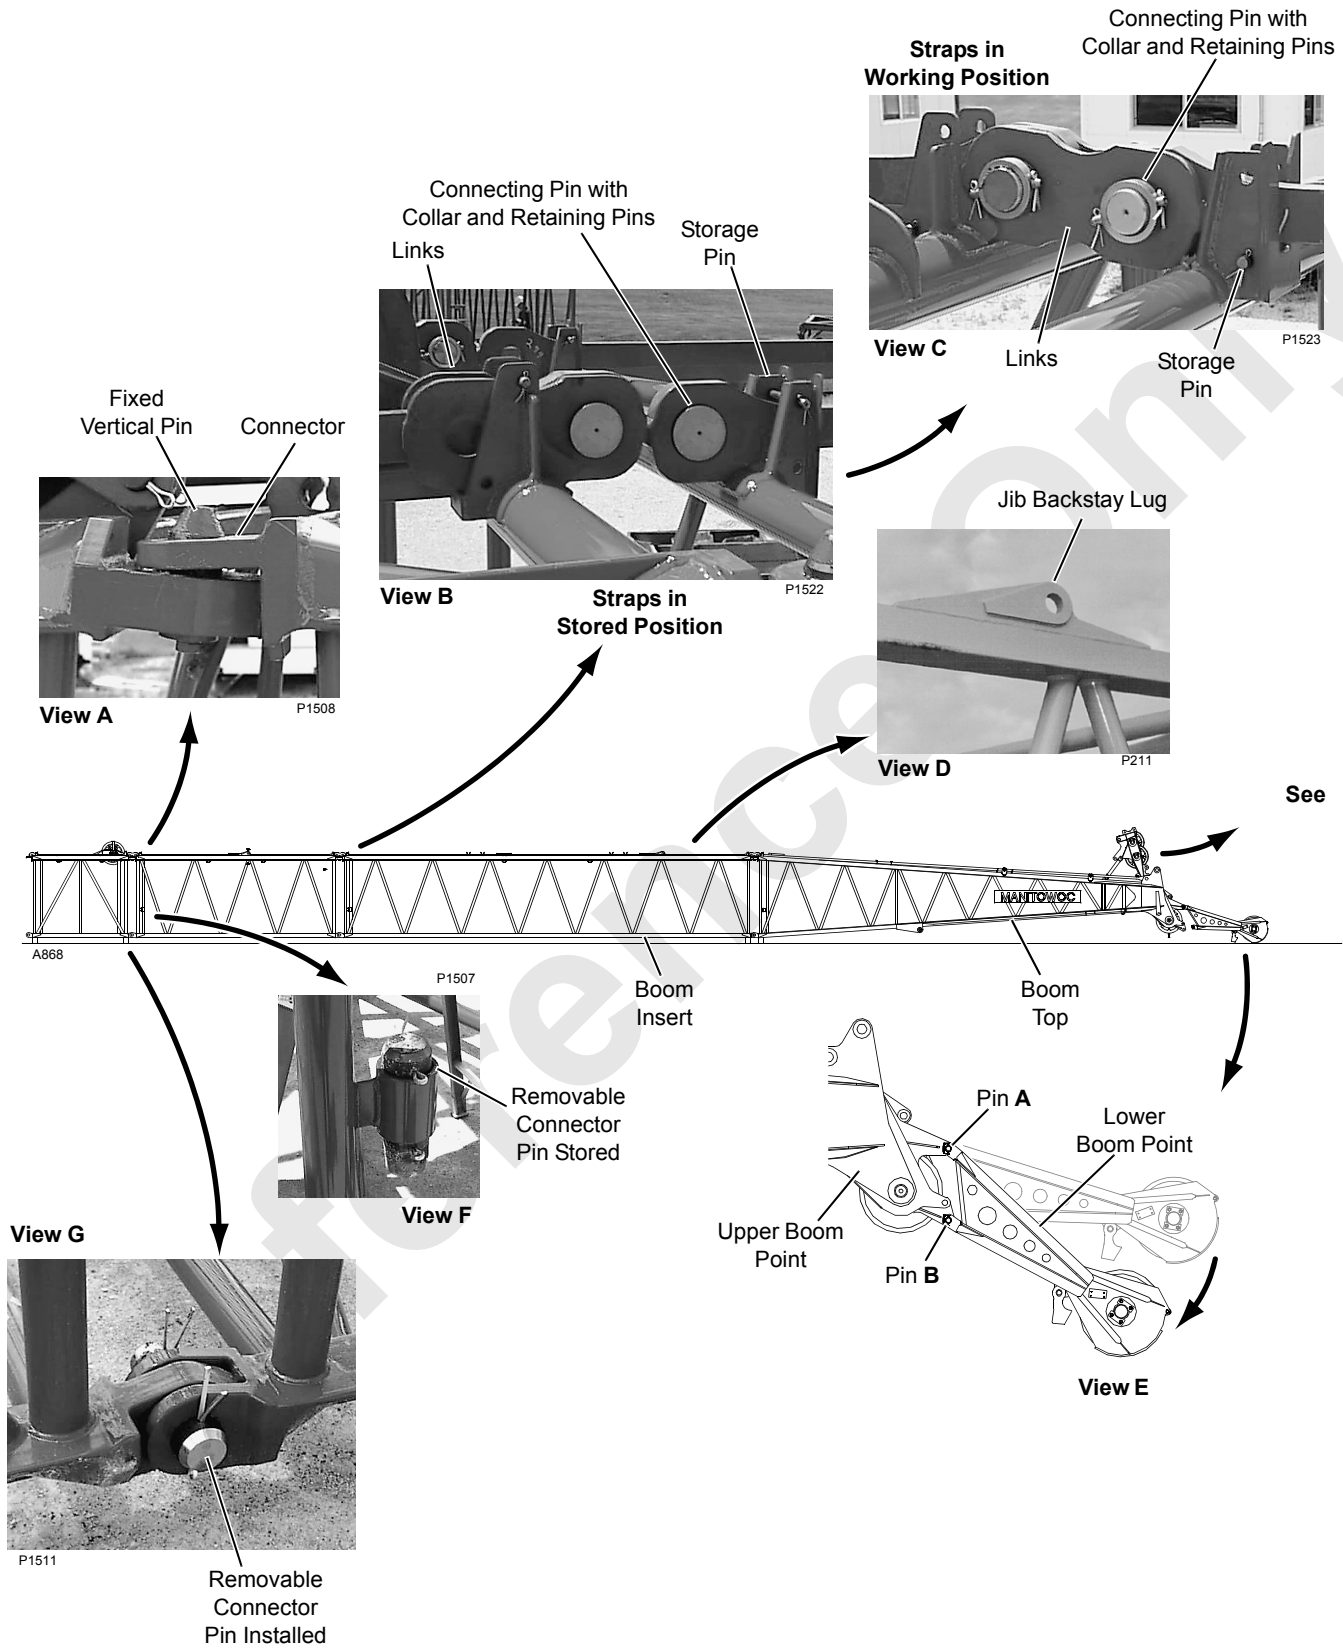

FIGURE 4-29
1. Before you start assembling boom, determine if a fixed jib will be installed. If so, install insert with backstay lugs (Figure 4-29, View D) next to boom top.
See Figure 4-29 for the following procedure.
- **If equipped with an upper boom point**, remove lower connecting pins (B, Figure 4-29, View E) before upper point contacts ground.
- Store boom straps and links as shown in Figure 4-29, View B.